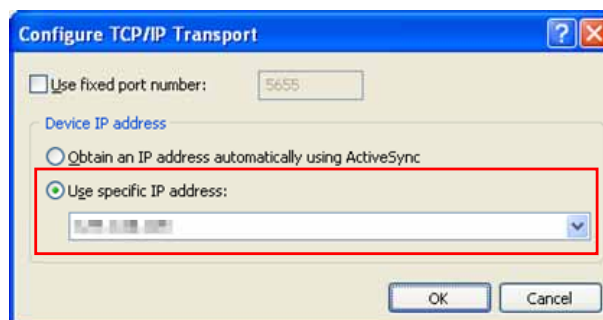

Figure 5.30
6. Click **Transport:** to access **Configure...** and set up **Device IP address** as shown in Figure 5.30.